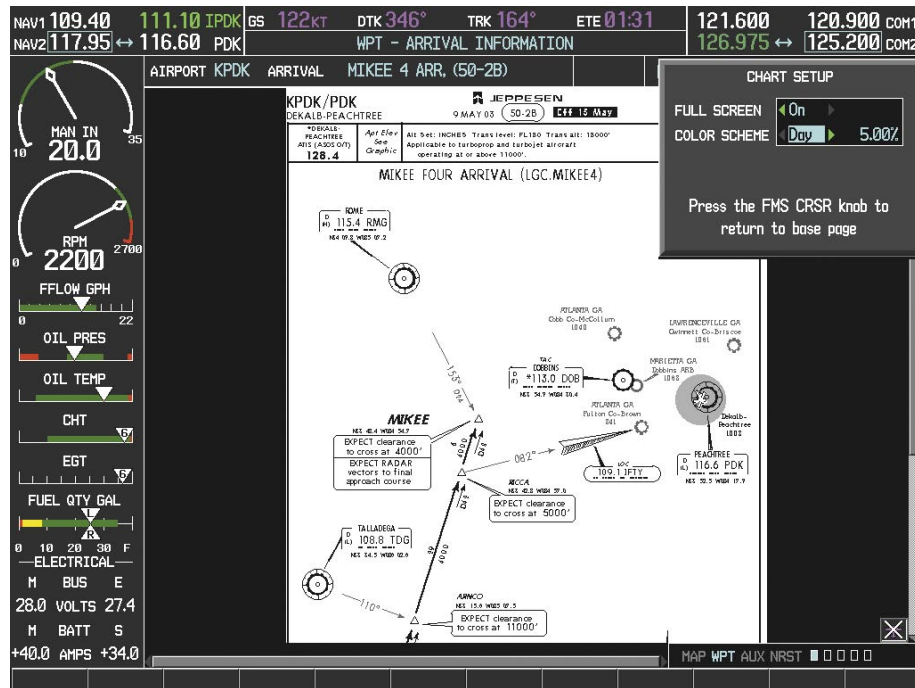

Figure 8-29 Arrival Information Page, Day View
- 3) Turn the large **FMS** Knob to move between the 'FULL SCREEN' and 'COLOR SCHEME' Options (Figure 8-29).